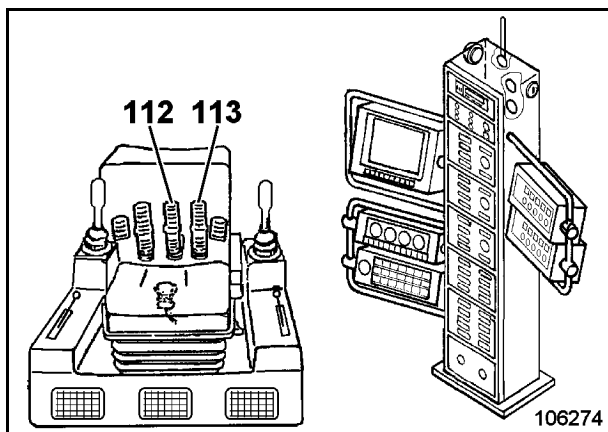

Fig. 2-94:
- ➡ depress only pedal(112, Fig. 2-94:) forwards